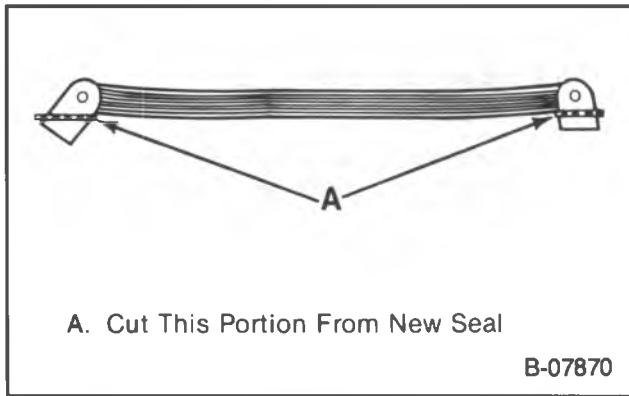

Figure 15 — Front Oil Pan Seal Modification
- Cut the tabs from a new seal (figure 15). Use a sharp cutting tool to ensure a clean cut.